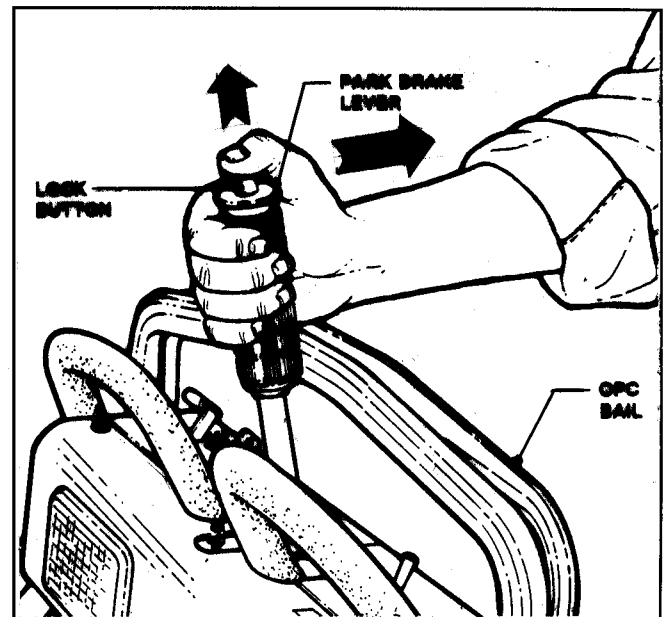

FIGURE 5
7. Pull the PARK BRAKE LEVER firmly against the Handlebar until it locks and the button pops up. See Figure 5.